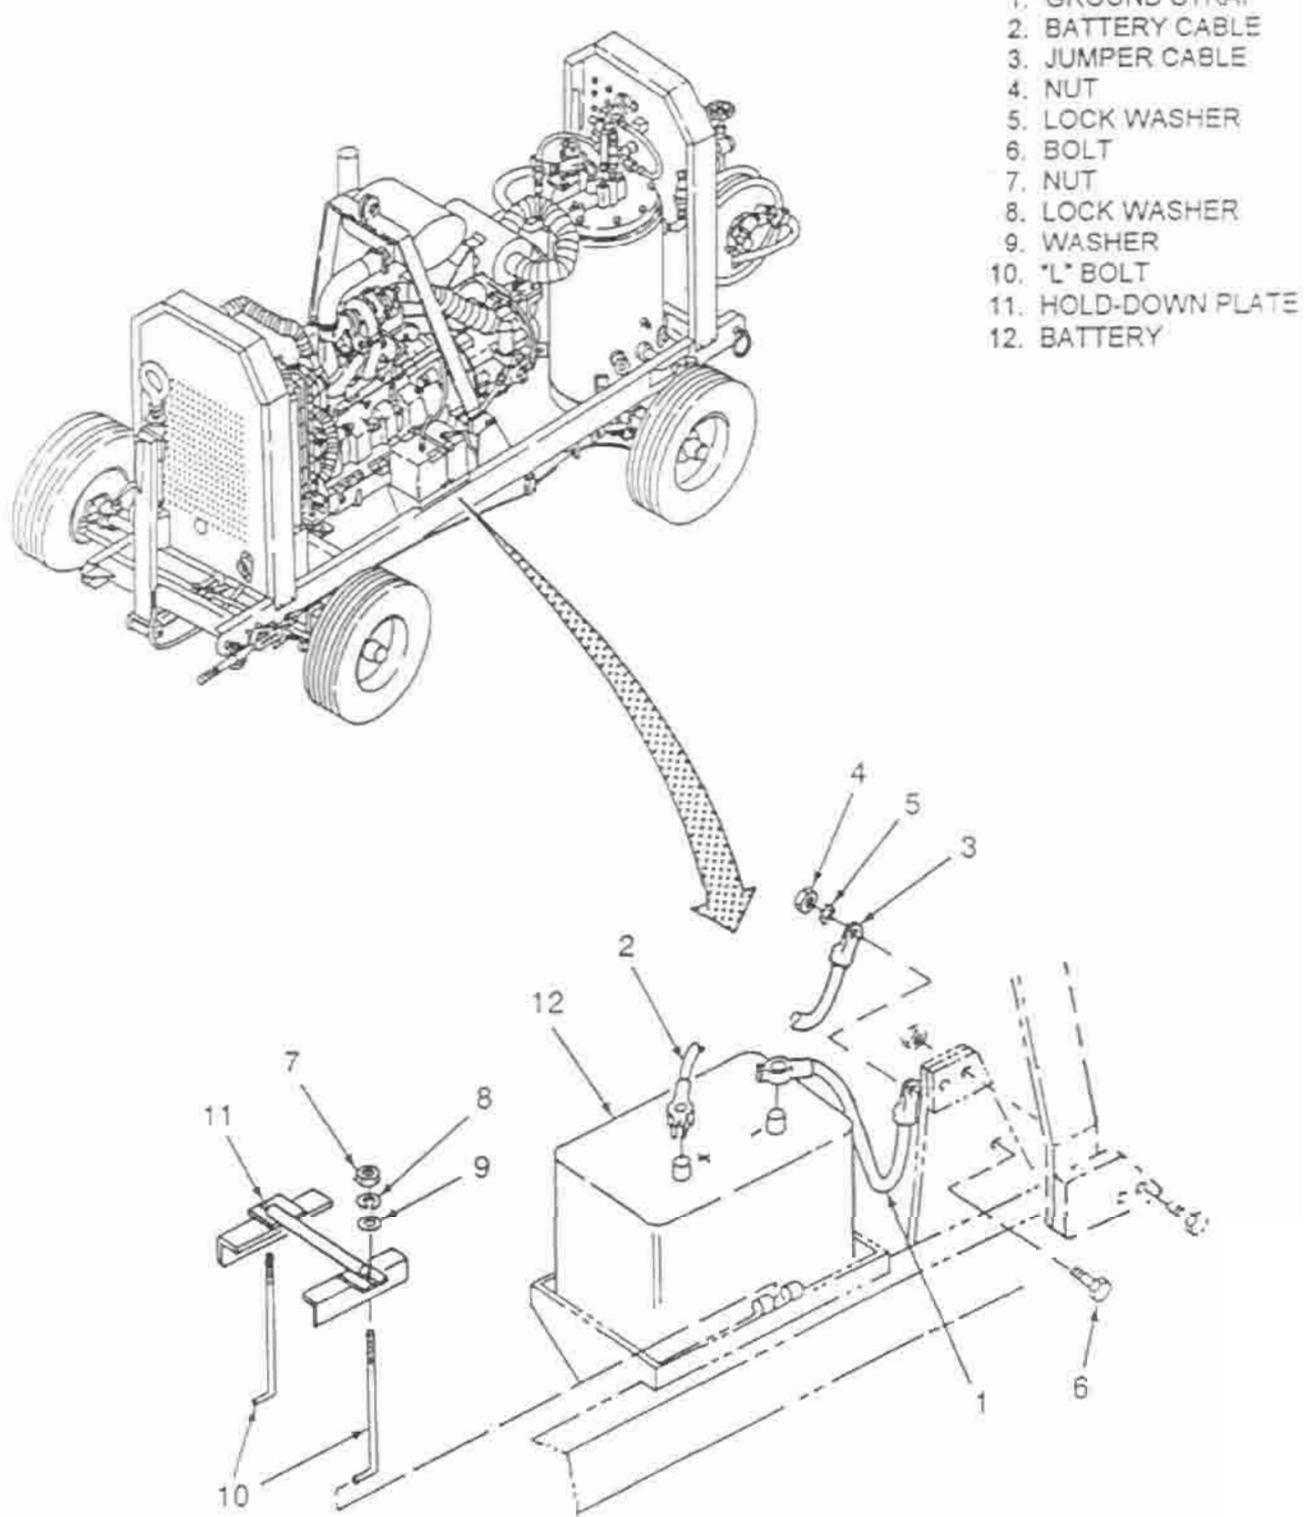

Figure 3-14. Battery Cable, Battery Mounting Disassembly
3-25. Battery Cables, Battery Mounting Disassembly. Refer to Figure 3-14 and remove mounting group as follows:
c. Mark wire harness lead (76, 3 wires, Figure 3-15, Sheet 1) at starter motor. Disconnect battery leads (1 and 2, Figure 3-14) and wire harness at starter motor.
e. Mark wire harness leads (2 wires) at injector pump. Disconnect fuel tank hose (15), and remove leads from injector pump.
g. Remove engine cable assembly (46) by removing cap screw (47), flat washer (48) and lock washer (49) from engine.
h. Remove muffler clamp (50) from rear of engine and air inlet adapter (51). Remove adapter.
i. On left and right rear side of engine, remove self-locking nut (52), flat washer (53), and cap screw (54) from rear shock mounts (55) on frame.
j. On left and right front side of engine, remove self-locking nut (56), flat washer (57) and cap screw (58) from front shock mounts (59) on frame.
k. On left and right rear side of engine, remove cap screw (60) and lock washer (61) from engine and rear engine mount (62).
l. On left and right front side of engine, remove self-locking nut (63), lock washer (64) and cap screw (65) from right front engine mount (66). Remove hex head screw (67) attaching front engine mount (66) to engine.
m. On left and right rear side of engine, remove self-locking nut (68) and cap screw (69) attaching rear shock mounts (55) to frame.